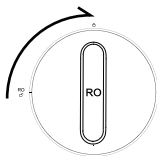

Fig. 3
A. The filter element points to the “♣” lock mark alignment (Fig.3).
B. Tighten the filter in the 12:00 direction (Fig.3).